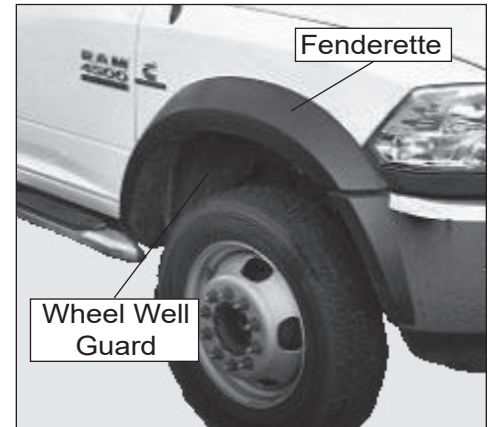

Figure 1 — Wheel Well Components
2. Remove the seven cap screws holding the bottom of the black plastic fenderette (mud guard) (refer to Figure 1) on the curb side wheel well.